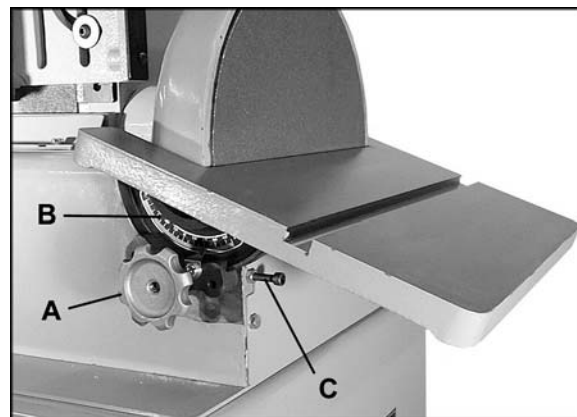

Figure 16
Refer to Figures 16 and 17:
- internal threads of table locking wheels (A, Figure 16)